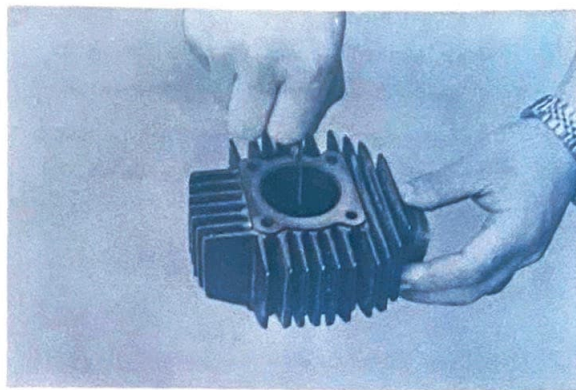

Fig. 3-5-4
- 1) Measuring piston ring wear Put the ring into the cylinder so that the ring is parallel to the cylinder bottom edge, and then measure the end gap with a feeler gauge (Fig. 3-5-4) The end gap should be between 0.15 and 0.35 mm (0.006"-0.014") for both No.1 and No.2 rings